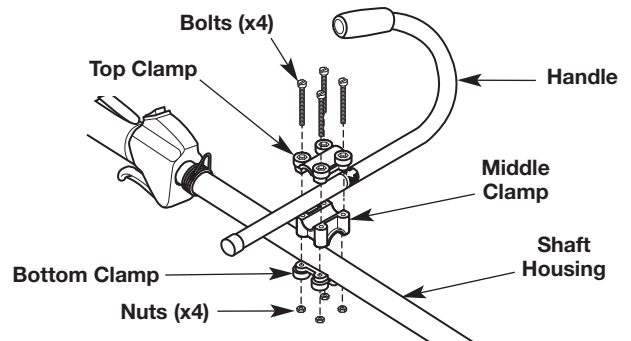

Fig. 2
1. Place the handle between the top clamp and middle clamp (Fig. 2). If necessary, rotate or flip the middle clamp until the holes in the top clamp and middle clamp align.
2. Place the clamps and handle over the shaft housing and onto the bottom clamp (Fig. 2).
**NOTE:** Make sure the curved portion of the handle is on the operator's left (Fig. 2).
3. While holding the pieces together, insert the bolts (x4) into the aligned holes (Fig. 2).
4. Screw a nut onto the end of a bolt, but only slightly. Push the nut into the hexagonal recess on the bottom clamp. Hold the nut in place with a finger to keep it in the recess. Tighten the bolt with a Phillips screwdriver, but do not tighten it completely (Fig. 2). Repeat this step for each nut and bolt.
1. Loosen the bolts (x4) slightly with a Phillips screwdriver (Fig. 2).